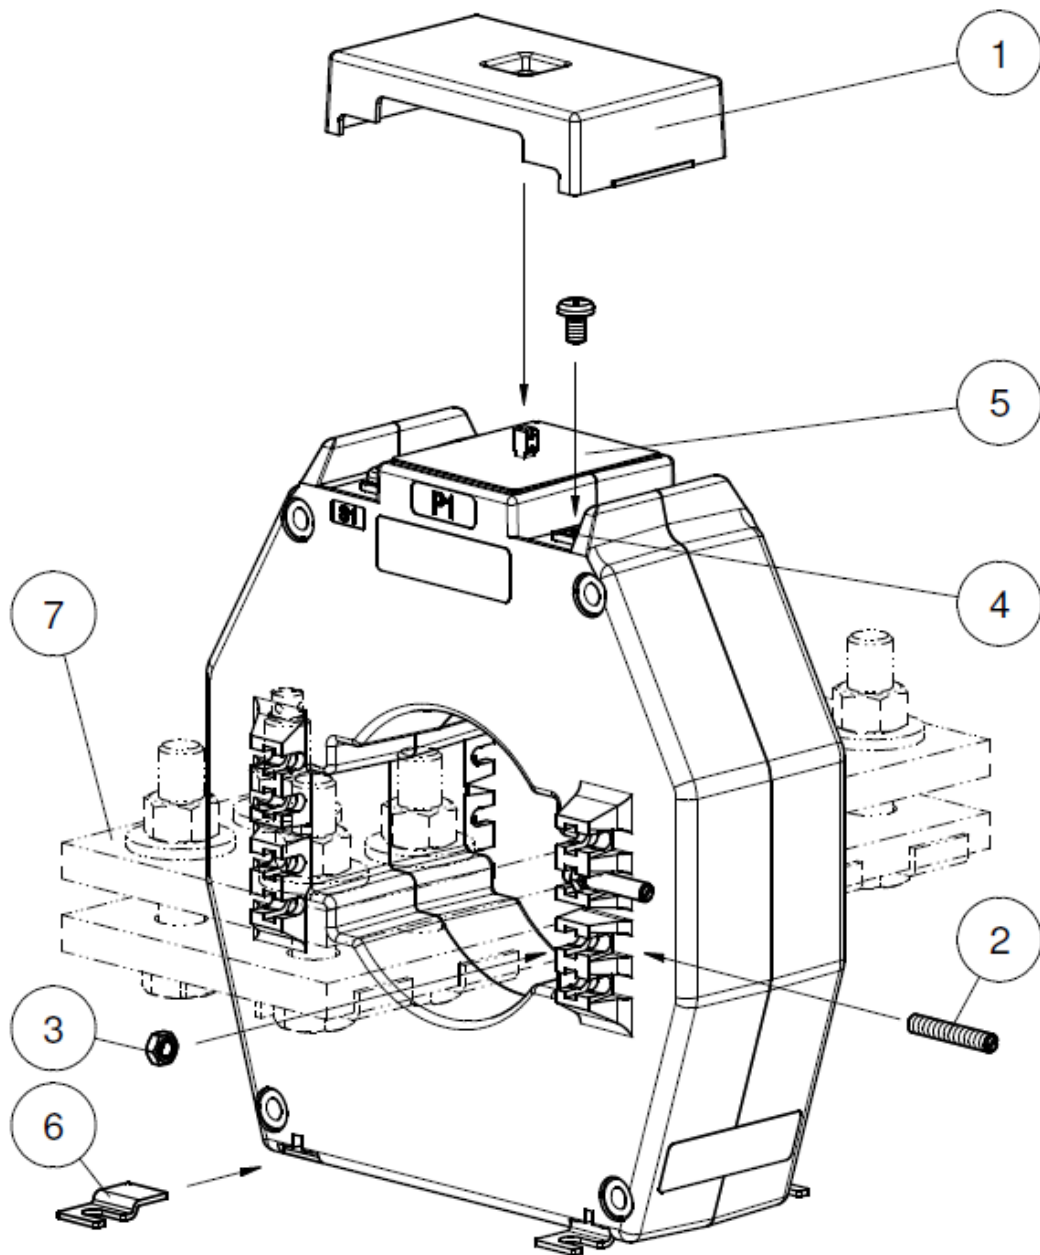

Figure 2.47: LMG-Z742 Drawing 3D
Description of Figure 2.47:
- 2 Secondary terminals, max. tightening torque see Figure 2.47
- 5 Primary conductor fixture, max. tightening torque see Figure 2.47